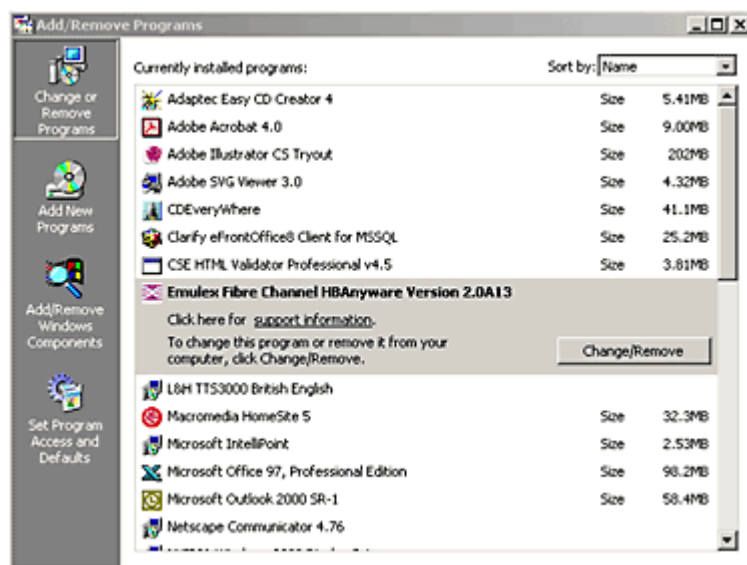

Figure 3: Add Remove Programs Window
1. Click **Start**, **Settings**, and **Control Panel**. The **Add/Remove Programs** window is displayed. Select the **Install/Uninstall** tab. A window similar to Figure 3 will be displayed.